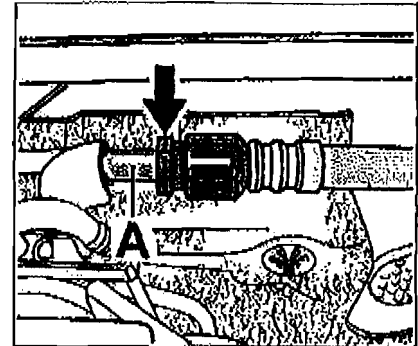

Figure 7
- 5.1 Place several cloths underneath the connection point at the plenum panel ⇒ *Figure 7 -arrow-* to absorb the fuel that emerges when you open the fuel line.
The marking at the connection point ⇒ *Figure 7 -A-* is required for positioning the fuel line correctly at the connection point and must not be removed.
- 5.2 Counter at the hexagon on the fuel line and relieve the fuel pressure at the connection point at the plenum panel ⇒ *Figure 7 -arrow-* by slowly opening the threaded joint on the fuel line. Absorb emerging fuel.